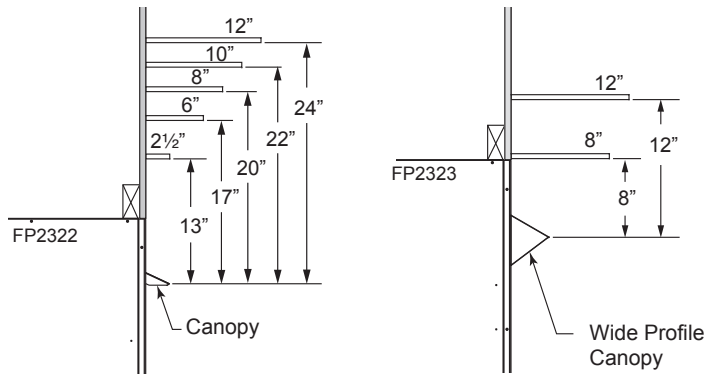

Figure 6 - Minimum Mantel Clearances for Canopy and Wide Profile Canopy
5. **Mantel clearances** — The canopy supplied with the unit must be installed. If a combustible mantel is installed, it must meet the clearance requirements detailed in *Figure 6*.